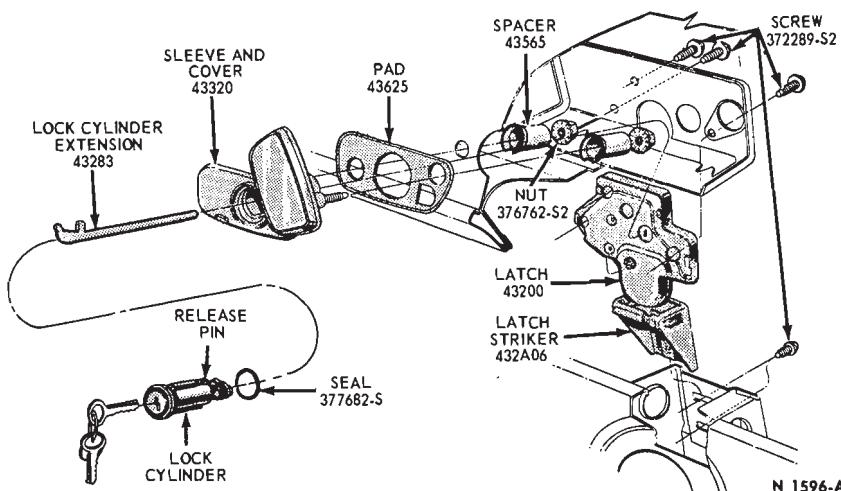

FIG. 10—Luggage Compartment Latch Installation—Cougar—Typical Falcon
2. Depress the lock cylinder release pin (Fig. 10) with a piece of wire and pull the lock cylinder extension, and seal from the sleeve and cover.
1. Position the latch to the luggage compartment door and install the three attaching screws (Fig. 10).